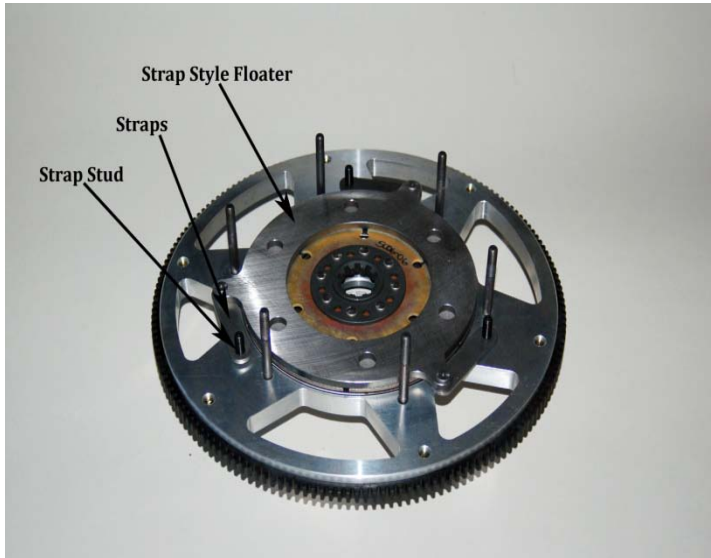

Figure 6
- 9) Strap Drive models only: Install bottom disc, floater with straps onto stud in flywheel, top disc, pressure ring, (shim packages if removed) and pressure plate assembly. Both drive straps must be offset and not on top of each other. The drive straps must be offset!! **Do not use thread adhesive (LocTite) on the studs or nuts!** Tighten the strap nuts to 25 ft lbs. See Figure 6.